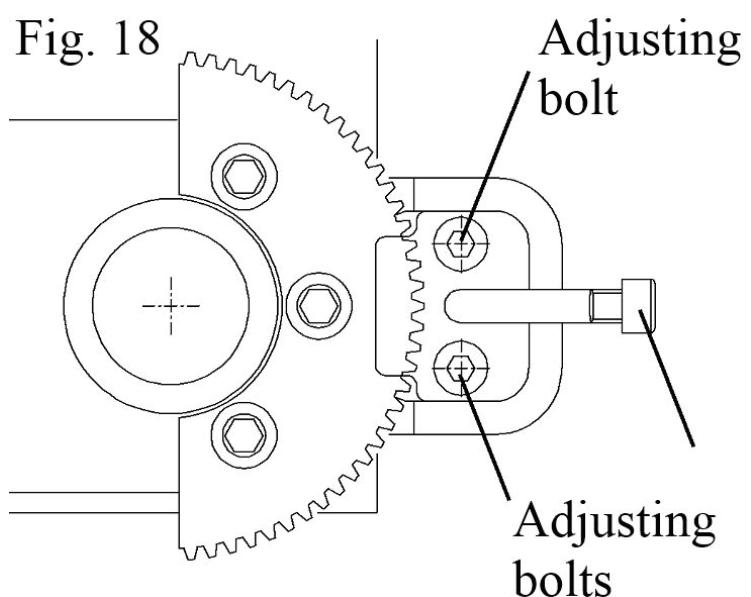

Fig. 18
- Check for proper engagement of the arm safety. Adjust it if necessary (ref. Fig. 18)